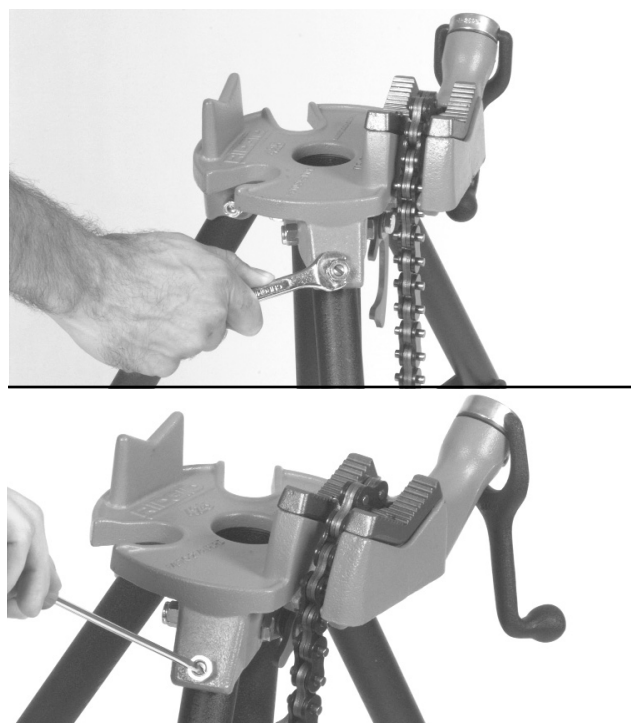

Figure 2 – Adjusting Leg Stiffness
- (A) Loosen lock-nut located on leg (*Figure 2 - left of chain vise when looking at front of base*).
- (B) Turn screw clockwise in increments of $\frac{1}{8}$ turn until desired over-center locking force is achieved.
- (C) Tighten lock-nut.